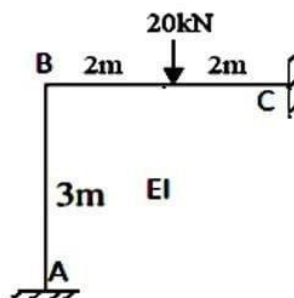

Figure 5
7. Analyze the frame by stiffness matrix method, and draw BMD, take EI as constant (figure 5). [15]